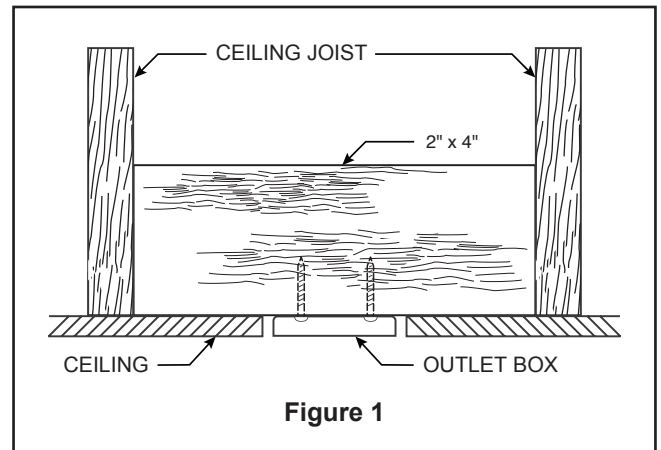
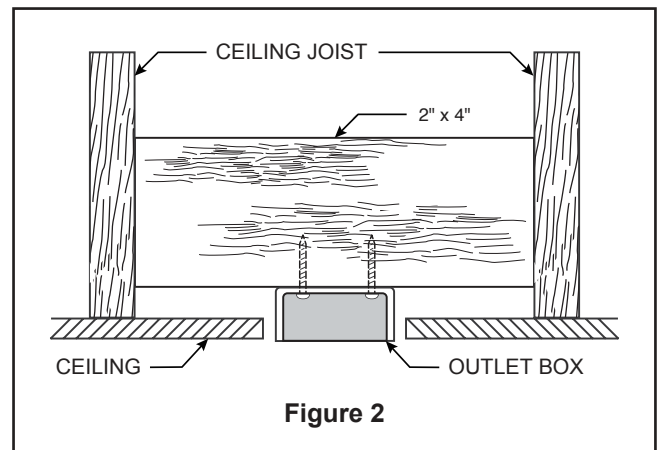
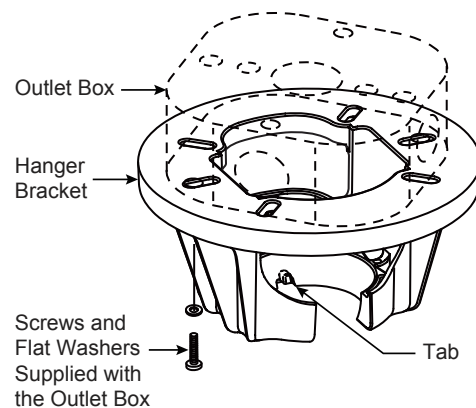

Figure 1
Figure 2
Figure 3
Your new ceiling fan will require a grounded electrical supply line of 120 volts AC, 60 HZ, 15 Amp Circuit. Electrical code requires use of a fan-rated outlet box to support the extra weight and motion associated with a ceiling fan. A fan-rated outlet box will be labeled as such and typically supports up to a 70lb ceiling fan. Fan-Rated Outlet Boxes vary in ratings and design. Ensure the ratings of your ceiling fan outlet box meet the requirements for the ceiling fan being installed. Figure 1, Figure 2 and Figure 3 depicts different structural configurations that may be used for mounting the outlet box.
Low profile outlet box (Figure 1)
Deep outlet box (Figure 2)
Deep outlet box with brace (Figure 3)
3. Loosen the two set screws and locking nuts in the downrod support of the motor assembly. Route the wires through the downrod. (Figure 3)
1. Securely attach the hanger bracket to the outlet box using the outlet box screws and washers supplied with the outlet box. (Figure 3)
NOTE: Outlet box screws pass through slotted holes of the hanger bracket. (Figure 3)
3. Carefully lift the fan and seat the downrod/hanger ball assembly onto the hanger bracket that was just attached to the outlet box. (Figure 4) Be sure the groove in the ball is lined up with tab on the hanger bracket. (Figure 3)
- 2. Slide the receiver into the hanger bracket before wiring as shown in figure 3.
3. Remove one of the three screws in the light housing assembly. Retain the screw for later and slightly loosen the remaining two screws. (Figure 3)
3. To make fan operational, remove battery insulator pull tab before use transmitter. Then, follow the remote code setting process. If not used for long periods of time, remove battery to prevent damage to transmitter. Store the remote away from excessive heat or humidity. (Figure 3)